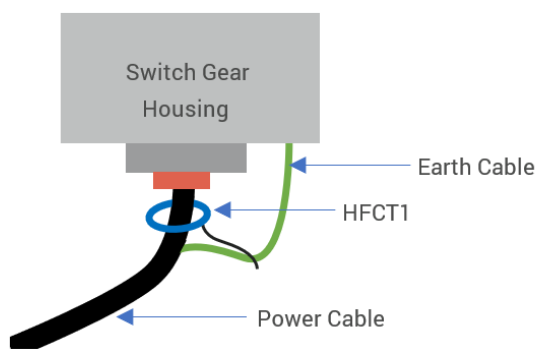

Figure 4
2. By monitoring the line conductor without the earth (Figure 4) or,